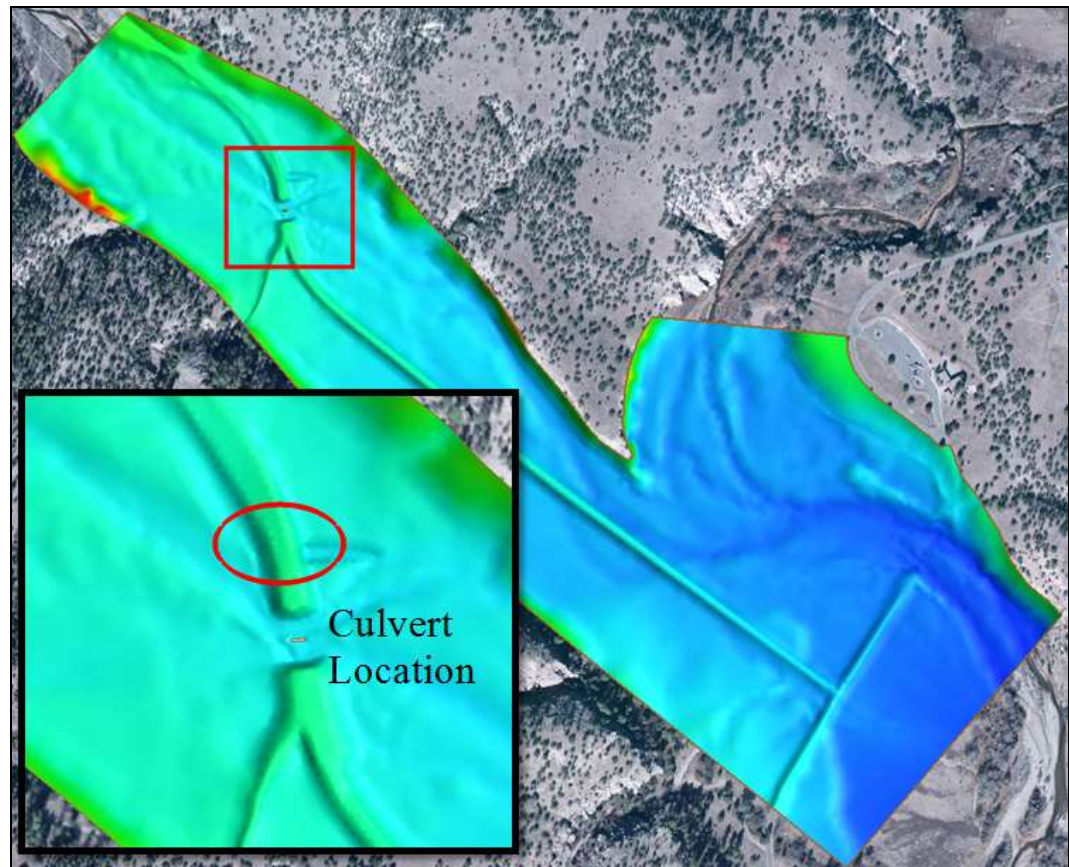

Figure 2 Culvert location
The culvert structure will be created near the bridge location (as shown in Figure 2). Culvert structures are defined by creating two boundary condition arcs, one on the upstream face and one on the downstream face of the structure. The boundary condition
2. Use the **Zoom**  tool to zoom into the culvert location near the bridge (Figure 2).